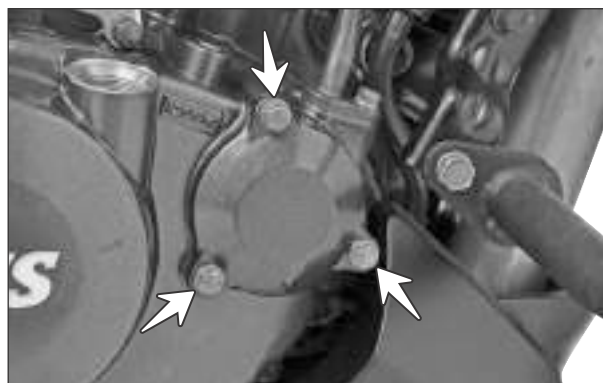

Fig. 2.31
- Loosen and remove the hexagonal flange bolts (M6x16 - 2 nos. and M6x75 - 1 no.). (Fig. 2.31)